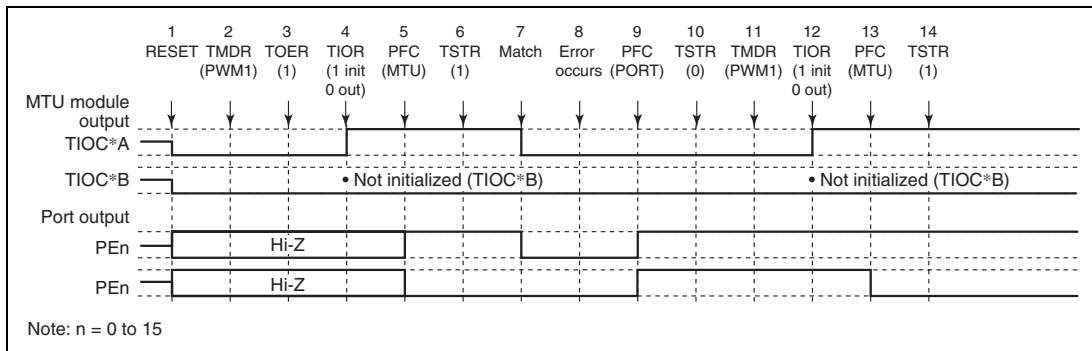

Figure 8.91 Error Occurrence in PWM Mode 1, Recovery in PWM Mode 1
(8) Operation when Error Occurs during PWM Mode 1 Operation, and Operation is Restarted in PWM Mode 1: Figure 8.91 shows an explanatory diagram of the case where an error occurs in PWM mode 1 and operation is restarted in PWM mode 1 after re-setting.